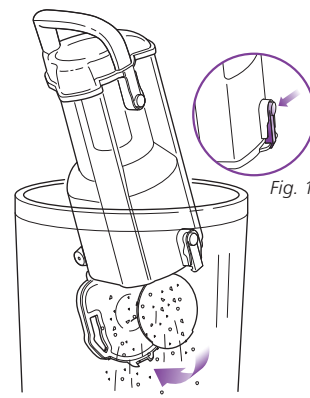

Fig. 15
- 3 **Option A:** for Quick Empty: Insert Dust Cup Assembly deep inside trash receptacle to contain dust and debris. (Fig. 15) Press the bottom Dust Cup Door release button; tap container gently to dislodge and release dust and debris. Close the bottom door until it snaps in place.